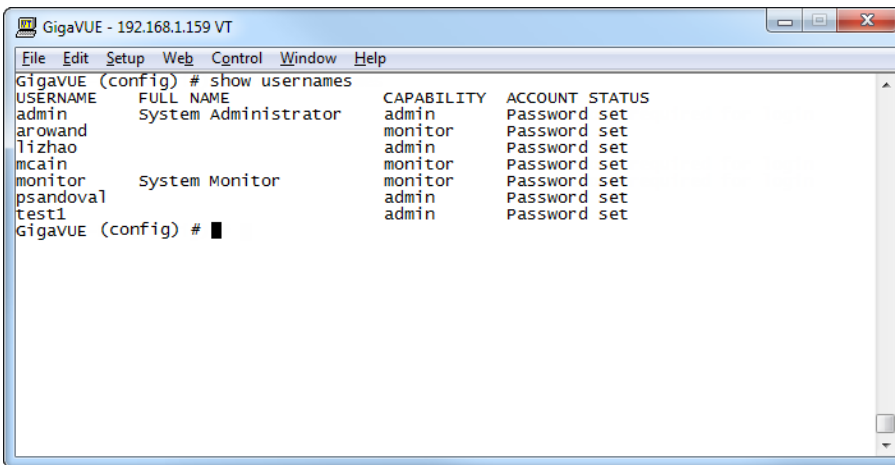

Figure 6 *Reviewing the User List*
- Once you have configured these basic user accounts, use the **show usernames** command to review your settings. Figure 6 *Reviewing the User List* shows some sample **show usernames** output after several users have been added.